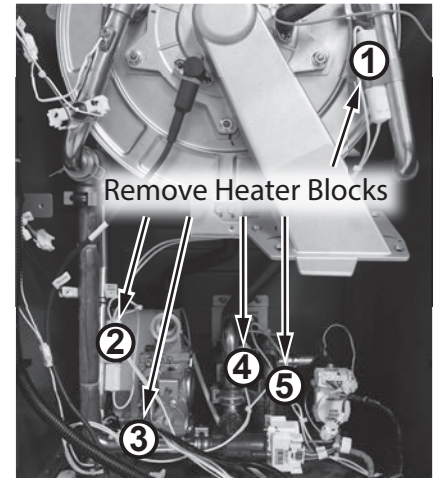

Figure 36 - Remove remaining heater blocks
- 15 Locate the five (5) remaining heater blocks attached to pipe connections as shown in Figure 36. Note the path of wires for ease of installation of new assembly. Remove brackets securing heater blocks to pipe connections. Place brackets aside in a safe place for reinstallation.